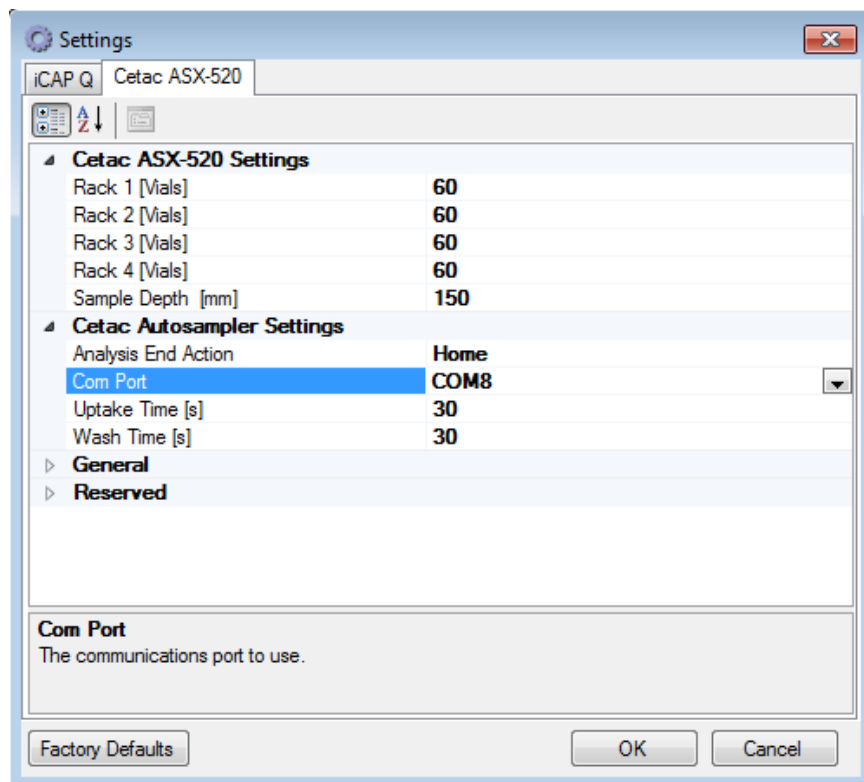

Figure 38: Edit autosampler settings.
- Next, right-click the newly added **Cetac ASX-520** and select **Edit Settings...** here you will configure the default racks to be used, these must match what was selected in ESI SC. Set the **Com Port** to COM8 (matching the “**Instrument COM Port**” in ESI SC). See Figure 38. Click **OK** and then **Save** your new configuration.